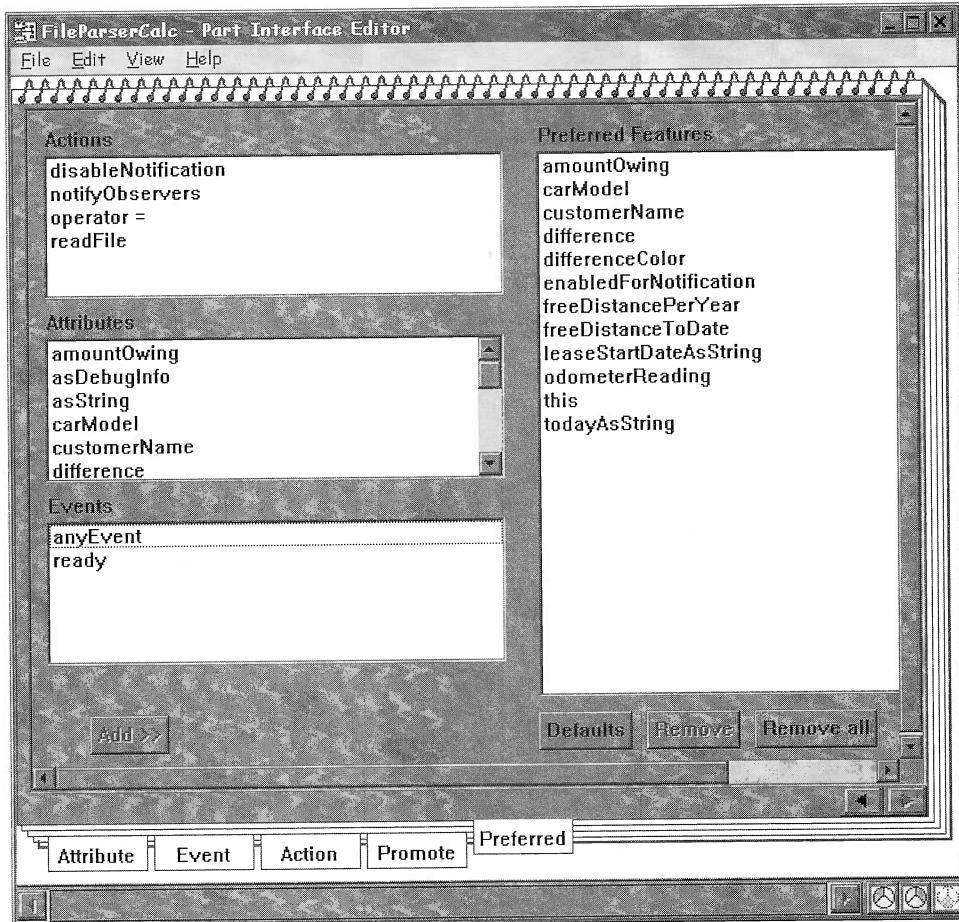

Figure 186: Adding promoted features to the Preferred list
- ☐ Switch to the **Preferred** page of the PIE and add all the promoted attributes to the **Preferred Features** list box as shown in Figure 186.